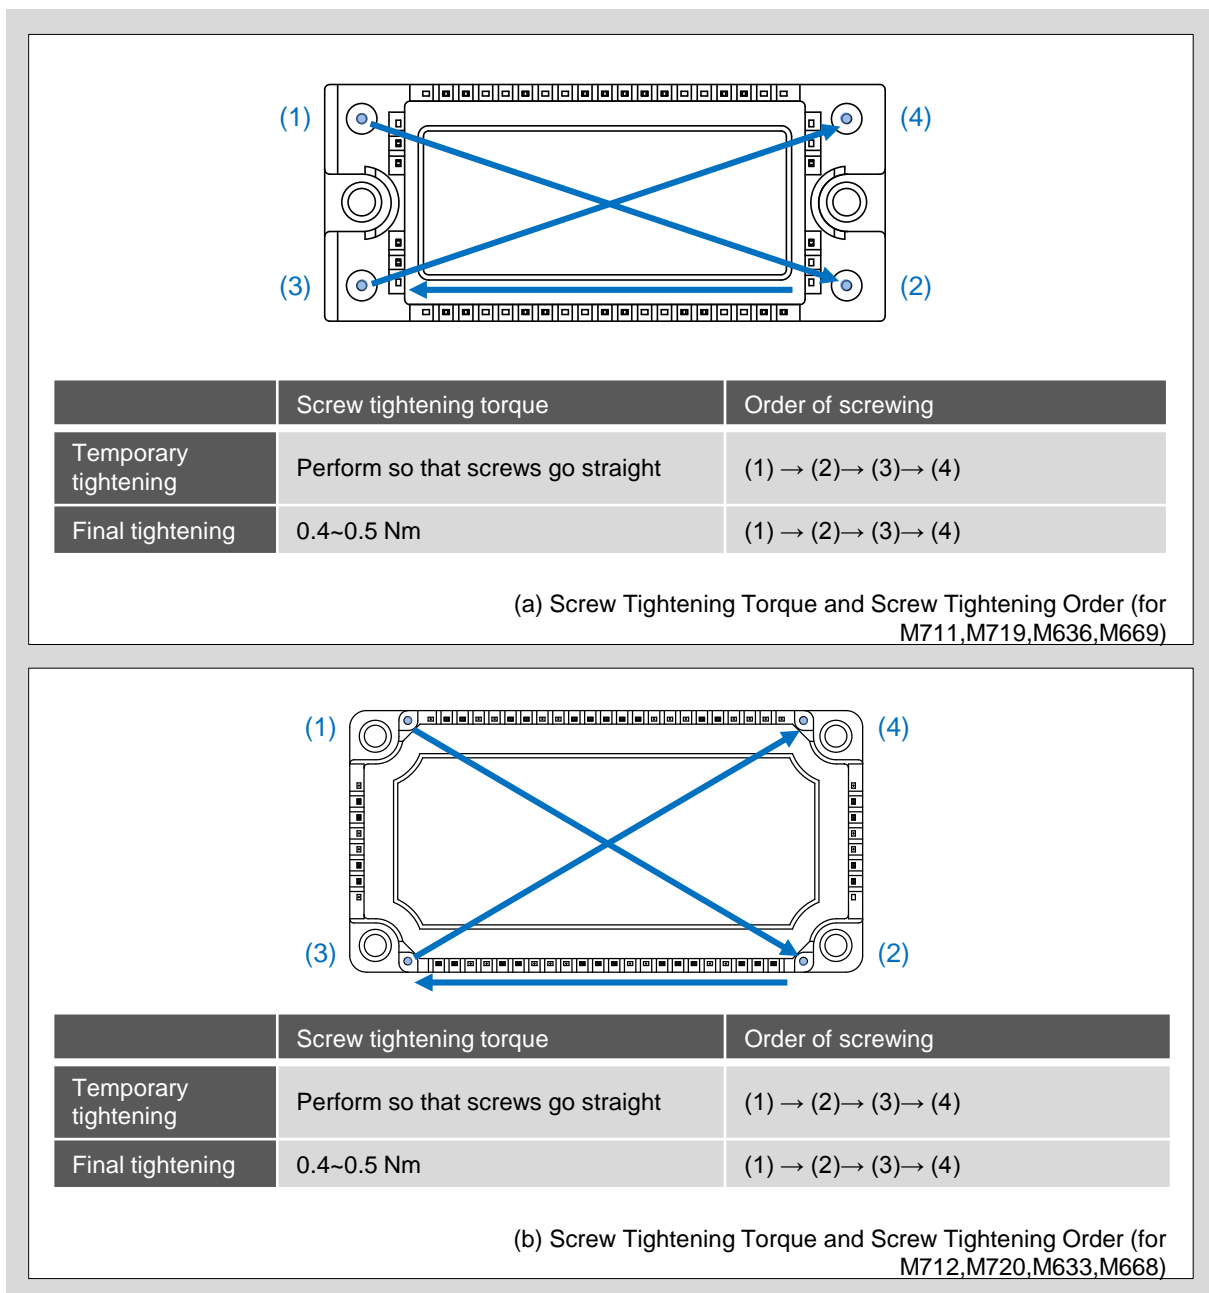

Fig. 4 Screw Tightening Torque and Screw Tightening Sequence
2. To secure the module with equal force, first perform temporary tightening so that screws go straight in the order shown in Fig. 4.